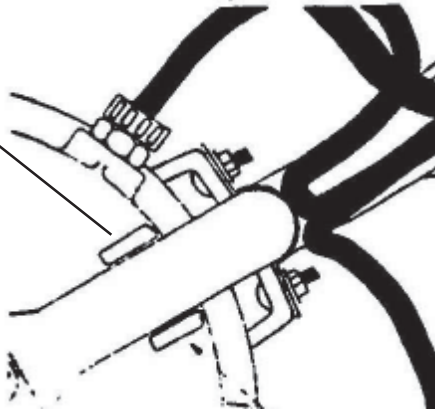

Figure 24
- C. Place one of the Support Arms in the center of the anti-rotational point on the Transformer Enclosure --see Figure 24. Figure 24 is located on page 21.**
- E. Replace the Support Arm back to its original position by refastening the (2) 1/4" nuts to the Brass Mounting Ring and the (1) 5/16" bolt and nut to the Support Arm Brace.**
(2) Support Arm Brace - Remove one of the 5/16" bolts that mounts one of the Support Arms to the Support Arm Brace.